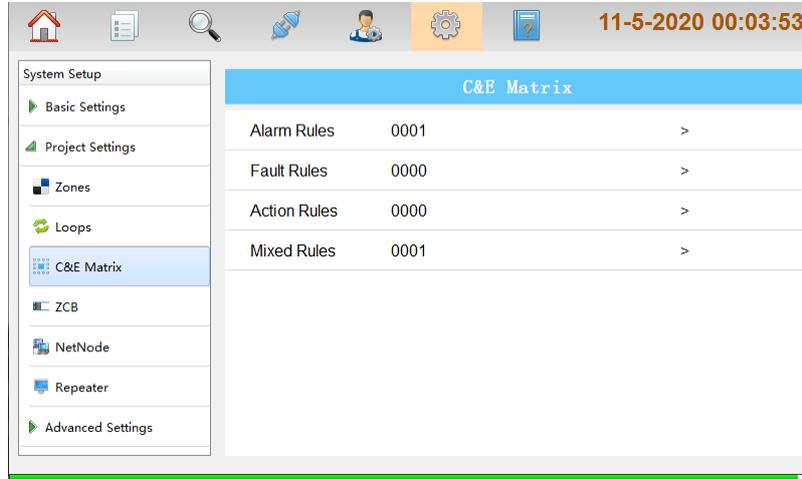

Fig. 4.20
- C & E Matrix: clicking **C&E Matrix** in **Project Settings** menu enters the screen below Fig. 4.20 including **Alarm Rules**, **Fault Rules**, **Action Rules** and **Mix Rules**.